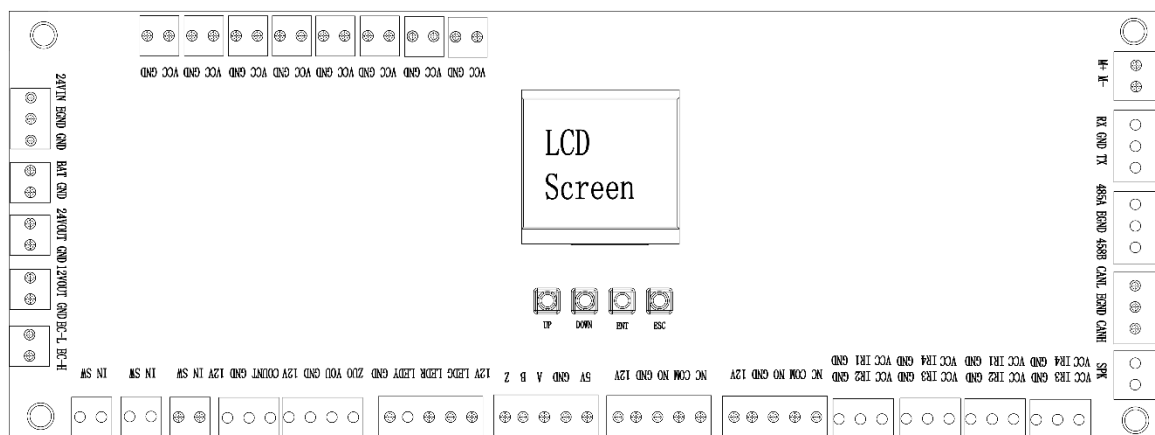

Figure 3-1
2. There are 4 buttons on the control board: **UP**, **DOWN**, **ENT**, and **ESC**, show as Figure 3-1: